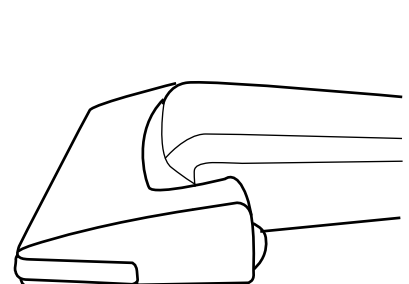

Fig. 15
- Low position – for cleaning under furniture (Fig. 15).